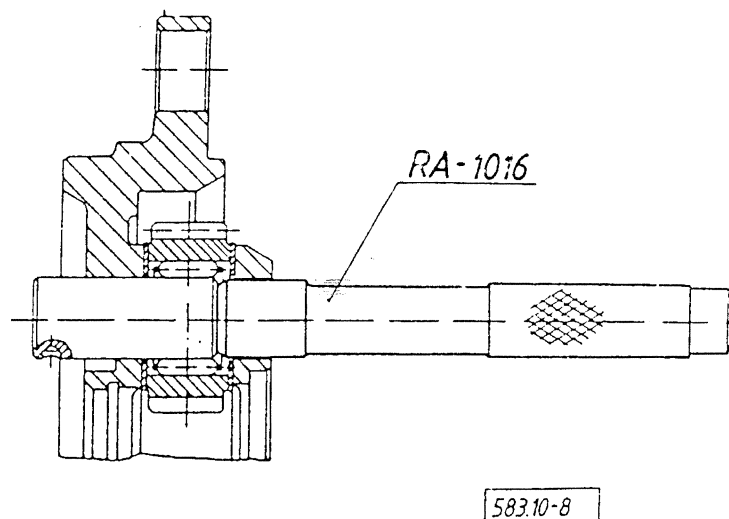

Fig. 1.: DRIVING OUT THE PINION PINS
By means of the mandrel shown in the figure drive out the pinion pin toward direction of the detent ball (15) (See Fig. 1.).